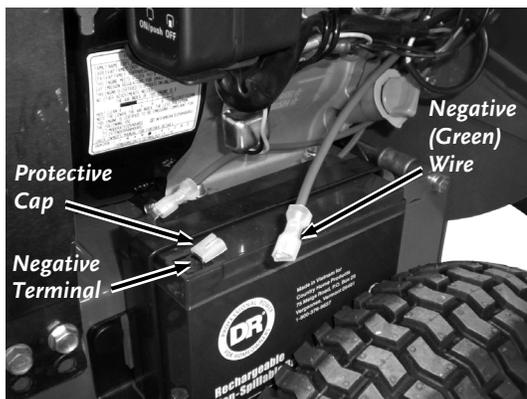

Figure 18
1. Remove the protective Cap that comes on the Battery Terminals for shipping (**Figure 18**).